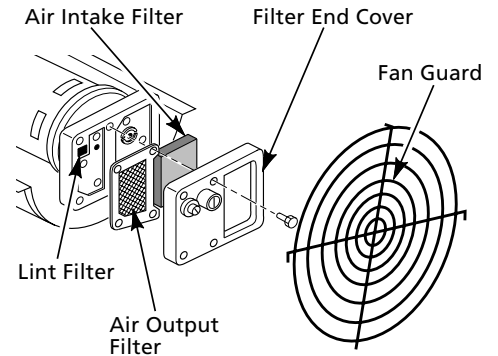
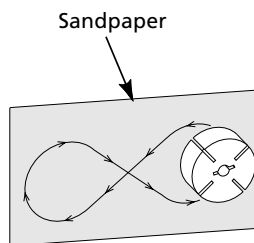

Figure 8 - Air Output, Air Intake, and Lint Filters
Figure 20 - Sanding Rotor
2. Remove filter end cover screws using 5/16" nut-driver (See Figure 8).
14. Place fine grade sandpaper (600 grit) on flat surface. Sand rotor lightly in "figure 8" motion four times (See Figure 20).